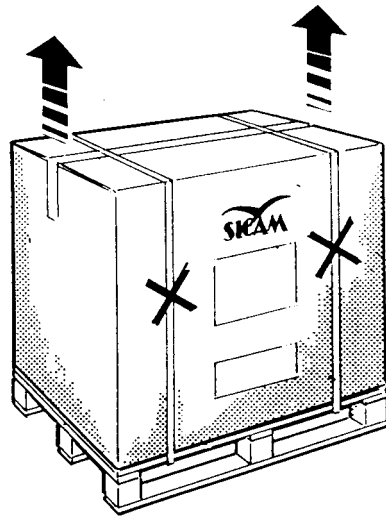

fig.5
- After removing the packing (the straps, seals, cardboard and the pallet as in fig. 5). Check the machine for missing or damaged parts. **If in doubt do not use the machine** and refer to professionally qualified personnel and/or to the seller.